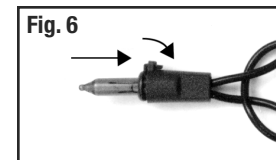

Fig. 6
4. Carefully insert new bulb into socket and push down Base Lock until it snaps into place (Figure 6).